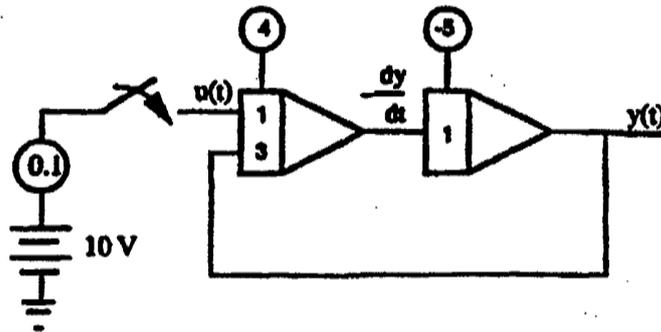
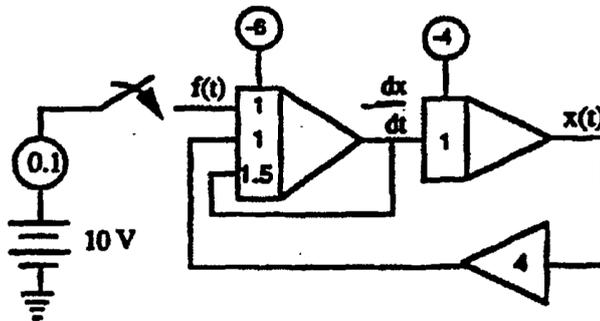

Fig. 9.
Fig. 10.
- Form all interconnections necessary to complete the diagram. Figure 9 gives the complete computer block diagram after all necessary connections have been made.
- It is possible to simplify the diagram in Fig. 9 in order to obtain one with the lowest number of components. The important thing to keep in mind here is that if all the loop-gain products are not changed, the same transfer function from the input to the output will result. (This can be proven by Mason's rule) Figure 10 shows the simplified block diagram and the input source which supplies the unit step input.
Following the method outlined above, the computer diagram show in Figure 10 may be obtained. Verify this!